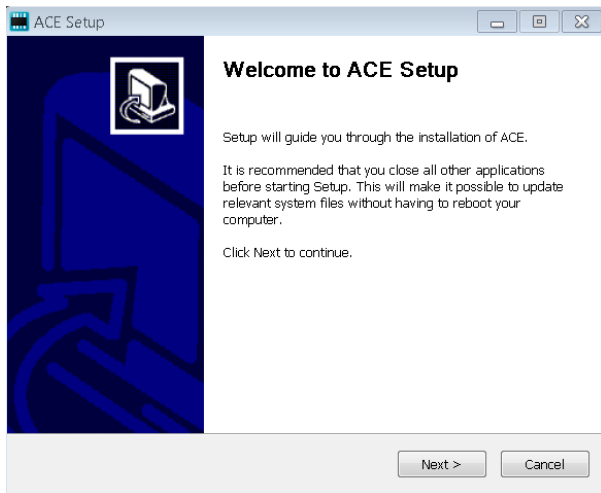

Figure 3. ACE Software Installation Confirmation
4. In the ACE Setup window, click Next > to continue the installation (see Figure 3).